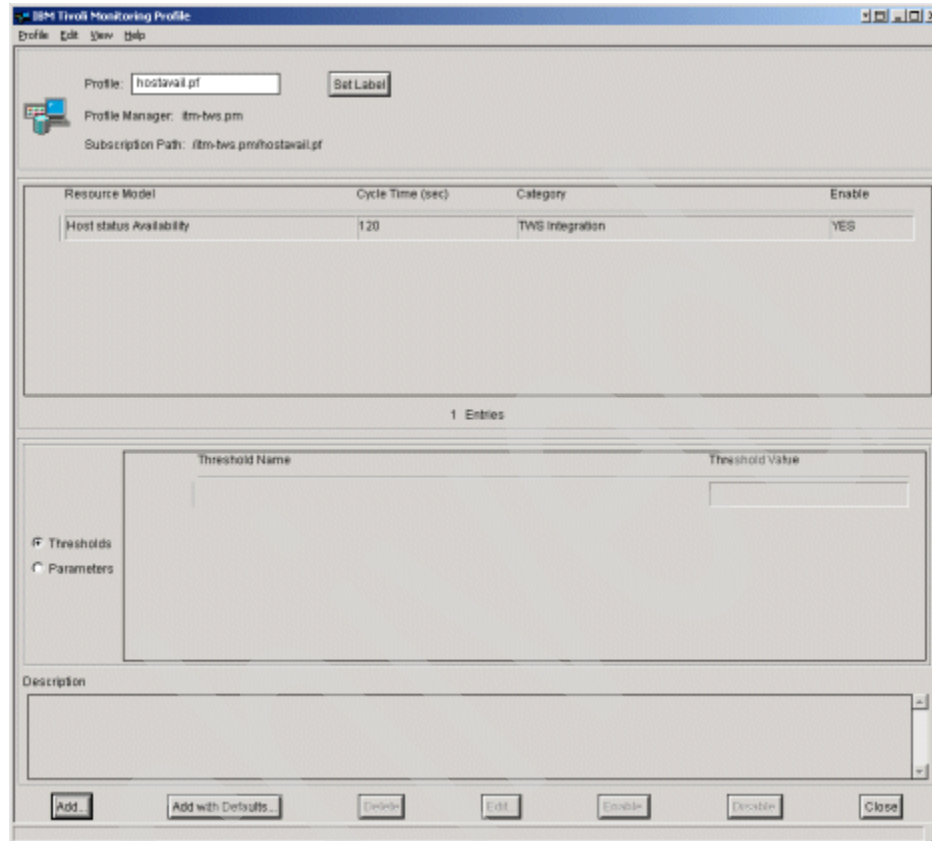

Figure 9-70 Host status Availability resource model added to ITM profile
3. Select **Add & Close**. You are returned to the Tivoli Monitoring Profile window for the hostavail.pf profile, with the Host status Availability resource model added to the Resource Model list, as shown in Figure 9-70 on page 487.